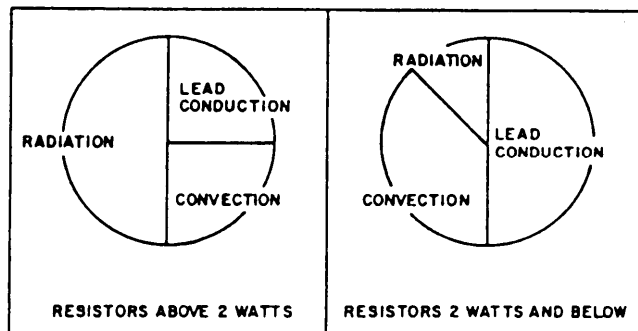

FIGURE 3. Heat dissipation of resistors under room conditions.
30.3.1 Stress mounting. Improper heat dissipation is the predominant contributing cause of failure for any resistor type; consequently, the lowest possible resistor surface temperature should be maintained. Figure 3 illustrates the manner in which heat is dissipated from fixed resistors in free air. The intensity of radiated heat varies inversely with the square of the distance from the resistor. Maintaining maximum distance between heat-generating components serves to reduce cross-radiation heating effects and promotes better convection by increasing air flow. For optimum cooling without a heat sink, small resistors should have large diameter leads of minimum length terminating in tiepoints of